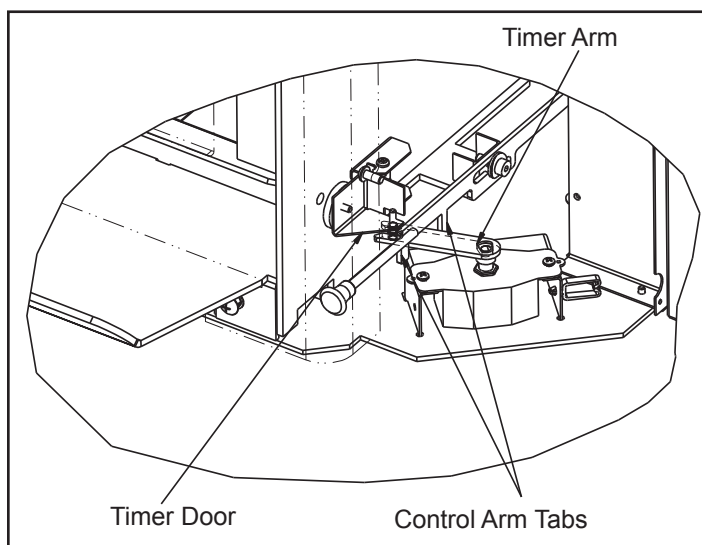

Figure 41.2
2. Re-install the timer assembly. The timer arm must be between the first and second control arm tabs. **Figure 41.2.**